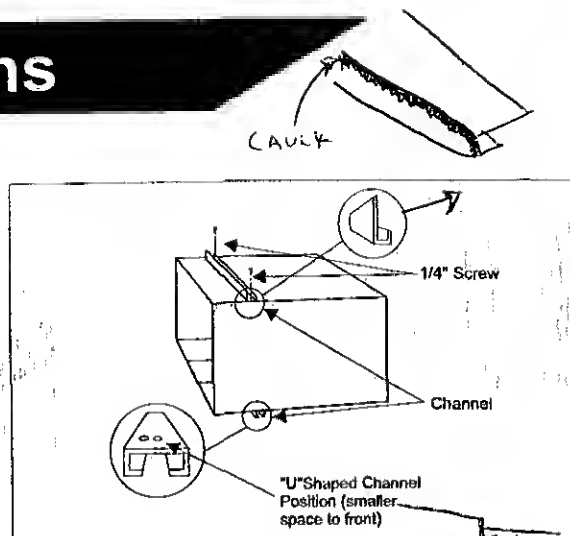

Fig 6
A "L" Shaped Top Channel: Install the "L" shaped top channel to the cabinet as shown in (Fig 6) using (4) 1/4" screws
B "U" shaped Bottom Channel: Install the "U" shaped bottom channel to the cabinet as shown in (Fig 6) using (4) 1/4" screws